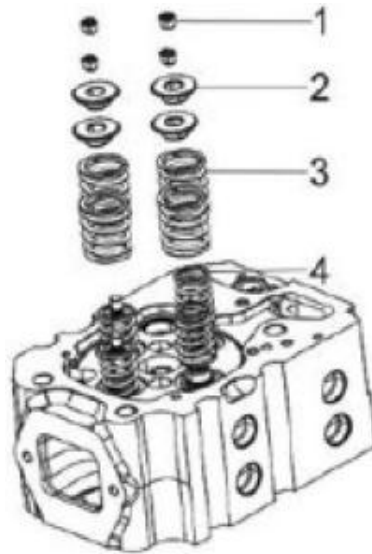

Figure 63. Valve Spring Assembly
7. Insert the valve keepers (Figure 63, Item 1) and slowly release the tension of the valve spring.